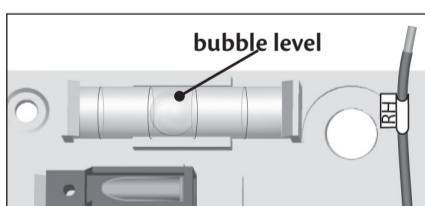
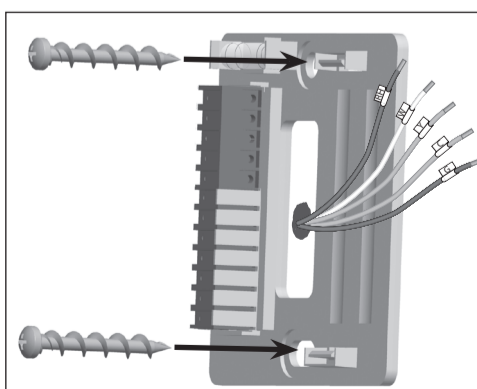

Figure 7.
Figure 8.
Note: Do not insert the wires into the holes in the top of the mounting block. The wires should be inserted into the front close to the hole in the mounting plate. See Figure 8.
3. Using a Phillips Screwdriver, Partially install 1 screw into the top hole of the thermostat. Ensure the thermostat is level using the bubble level on the mounting plate Figure 7., then install the other screw. Tighten both screws until secure. Figure 8.